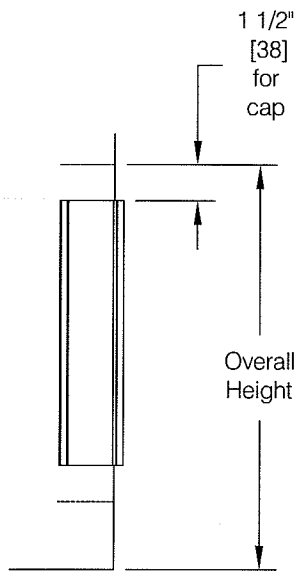

**fig 1**
**Step 1:** This series of corner guards is available with molded closure caps. While the installation of a cap at each end is considered standard these corner guards may also be installed with no caps or with a cap at either end, see **fig 1**.